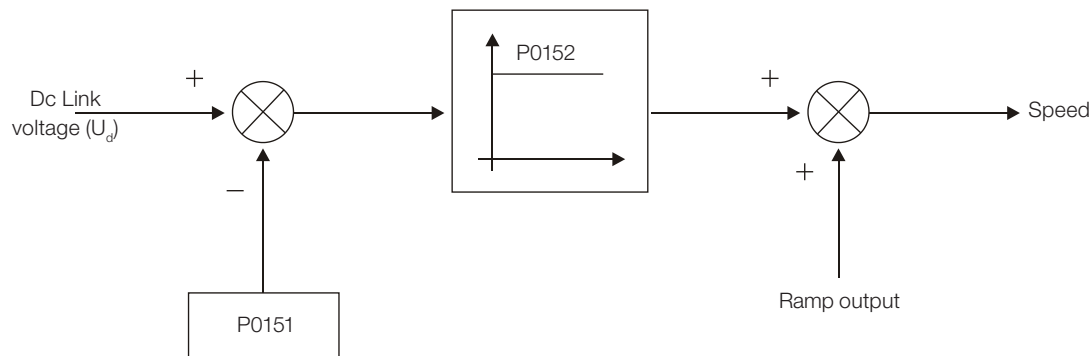
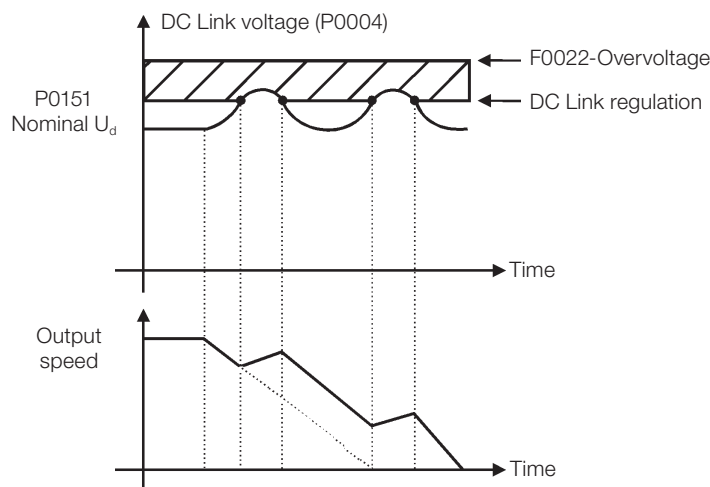

Figure 9.11: Limitation of the DC link voltage using ramp acceleration function block diagram
Figure 9.12: Example of the DC link voltage limitation working with the ramp acceleration function
**Working:** the DC link voltage is compared with the value adjusted in P0151, the difference between these signals is multiplied by the proportional gain (P0152) and the result is added to the ramp output. Refer to the Figure 9.11 on page 9-10 and Figure 9.12 on page 9-10.
It defines the DC Link Voltage Regulator proportional gain (refer to the Figure 9.11 on page 9-10).